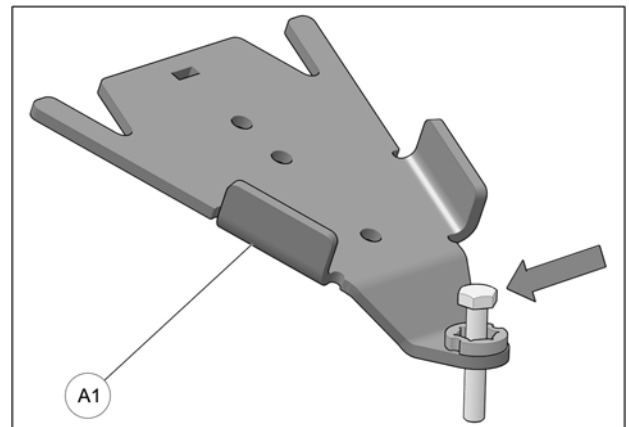

Fig. 24
8. Insert bolt in front anchor brackets (A1) as shown in Fig. 24